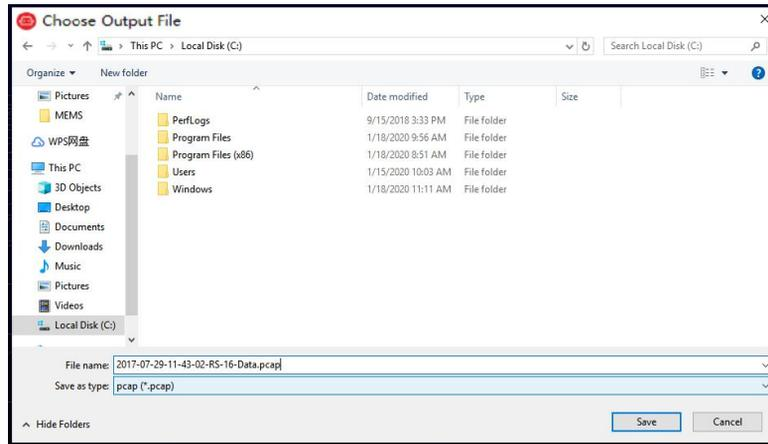

Figure C-5: RSView Record Saving Dialog.
2. A Choose Output File dialog will pop up. Navigate to where you want the file to be saved and click the **Save** button (Figure C-5). RSView begins writing packets to your pcap file. (*Note: RS-LiDAR-32 sensors generate a lot of data. The pcap file can become quite large if the recording duration is lengthy. Also, it is best to record to a fast, local HDD or SSD, not to a slow subsystem such as a USB storage device or network drive.*)